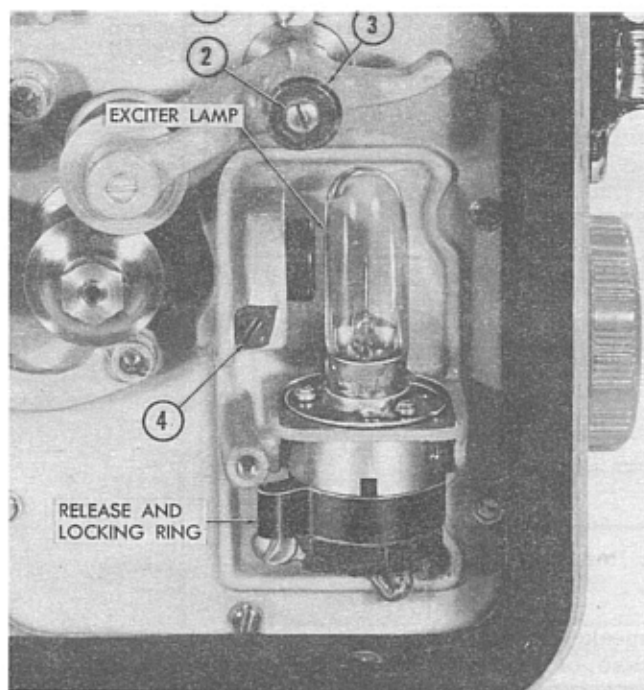

Figure 3-5. Projector Sound Head Alinement Adjustments
a. This adjustment determines if the film guide adjustment roller (figure 3-5) is in proper lateral position in relation to the scanning beam. Thread projector with three-foot loop of buzz-track test film. The emulsion side of the film should face the exciter lamp. Operate the equipment as for regular film. Be sure the amplifier and loudspeaker are connected. Turn up the amplifier volume control about half-way. Set tone control in position marked NORMAL. Turn OFF-MOTOR-LAMP switch to the LAMP position.
b. If the position of the film guide adjustment roller is in proper lateral position in relation to the scanning beam, the low signal (300 cycle) and the high signal (1000 cycle) will (1) not be heard in the loudspeaker, or (2), there will be a faint reproduction of equal intensity from both the low signal (300 cycle) and the high signal (1000 cycle).
loosen the binder head screw (2), figure 3-5 and turn the knurled scanning adjustment nut (3) in a counter-clockwise direction until the signal is very faint or is not heard.
d. If the high signal (1000 cycle) is reproduced strongly, loosen the binder head screw (2), figure 3-5 and turn the knurled scanning adjustment nut (3) in a clockwise direction until the signal is very faint or is not heard.
b. Loosen the fillister head screw (4), figure 3-5. Set tone control in position marked NORMAL. Turn volume (GAIN) control to an intermediate point, position marked 4. Turn OFF-MOTOR-LAMP switch to LAMP position.